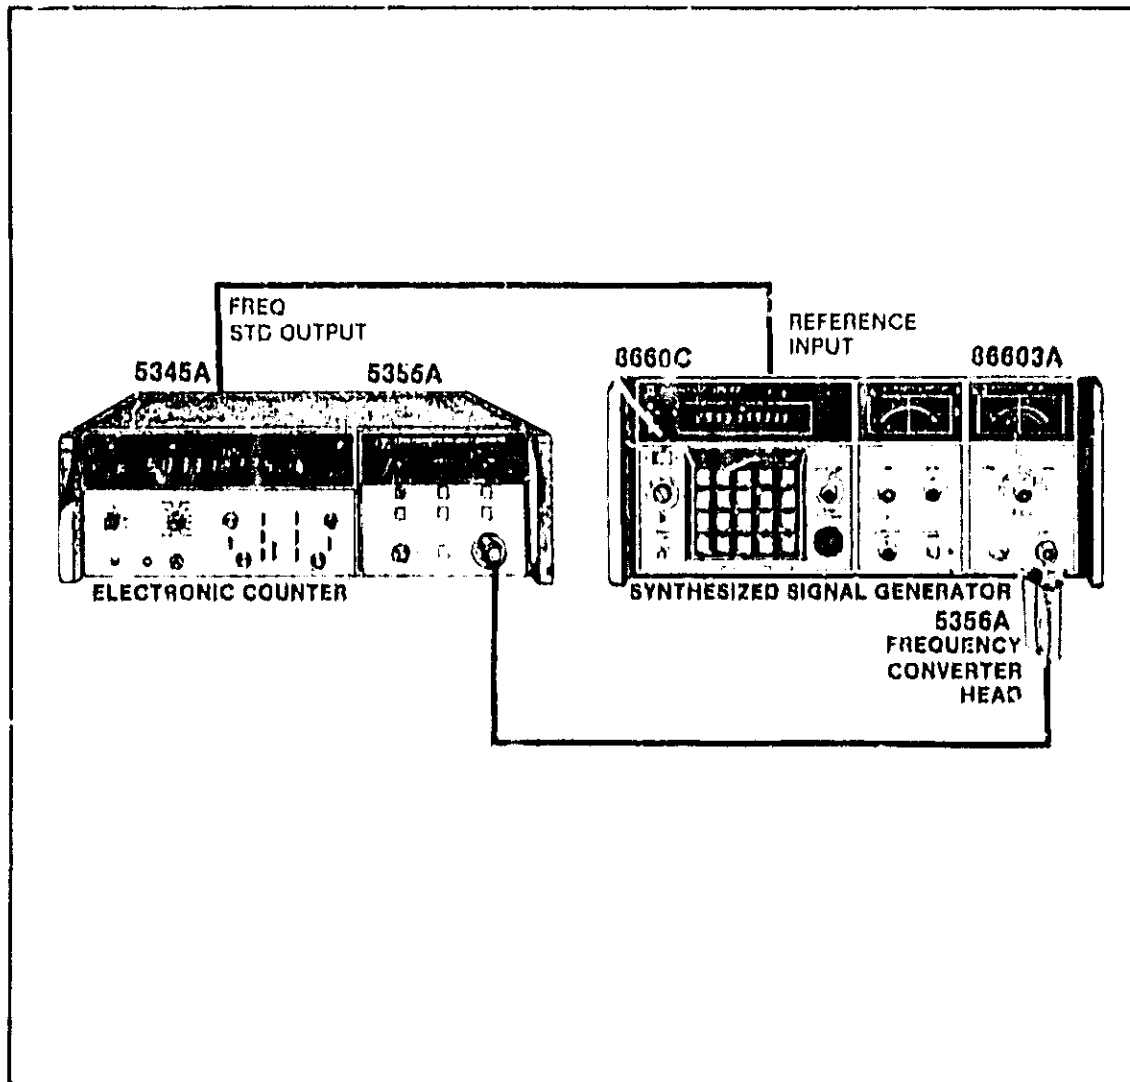

Figure 4-15. 5355A/5356 Accuracy Test, CW Mode Setup
Setup: Figure 4-15.
- Connect the internal oscillators as shown in Figure 4-15. Set the 8660C for external reference.